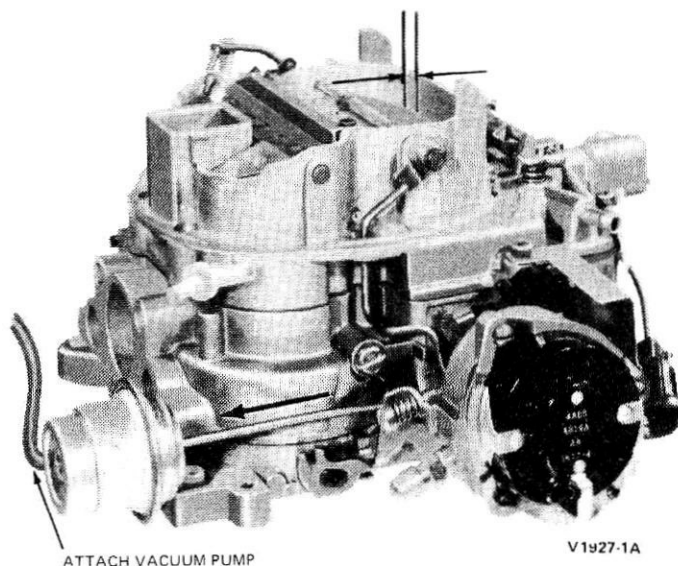

FIG. 16 Choke Plate Delayed Pulldown Adjustment
2. Disconnect the vacuum supply hose from the port on the delayed choke pulldown diaphragm assembly. Place a piece of tape over the purge hole after removing the filter cap and connect a vacuum source of at least 14-18 in. Hg to the port (Fig. 16).